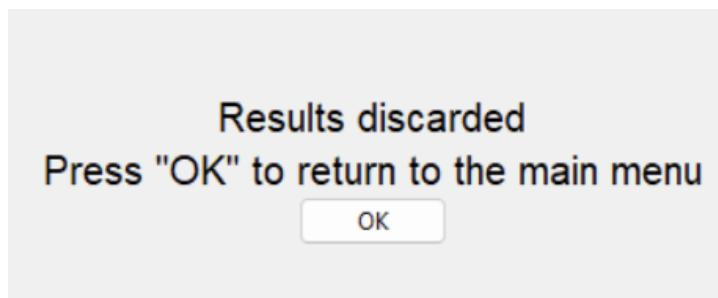

Figure 3.21 - Discard Results Confirmation (TS)
5a: The results will be discarded and the message shown in figure 3.21 will be displayed. Click “OK” to return to the main menu (TS).